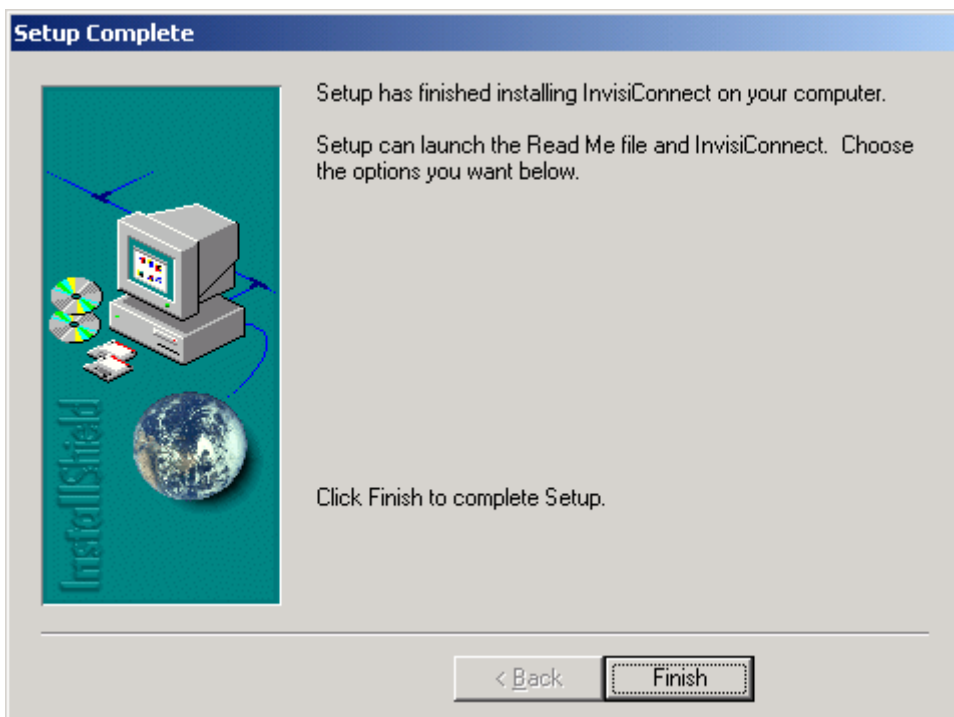

Figure 5 – InvisiConnect™ Installation – Setup Complete
7. Figure 5. Setup Complete – On the final installation screen, click <Finish> to complete the installation process.